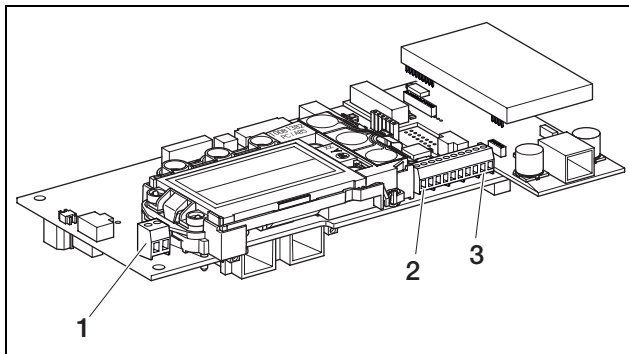

Fig. 59: Communication board II connections
The switch output (terminal S0/AL-OUT, position 1 in fig. 59) has different functions depending on how it is set (see section 'Setting the switch output function' on page 39). It can be used as an S0 interface, as an alarm output or for switching on devices (for internal consumption).
- Connect all wires to the appropriate terminals (fig. 59, position 1).
- Connect the lines to the terminal (4 in figure 59) according to the terminal assignment (table 9).